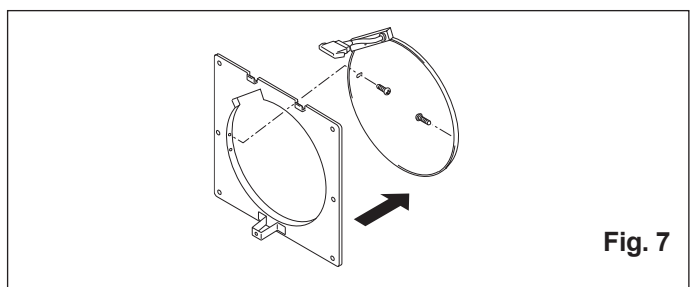

Fig. 7
- Press the mounting plate tightly against the wall and secure to the outside of the wall sleeve with the supplied screws(screw II). (Fig. 7)